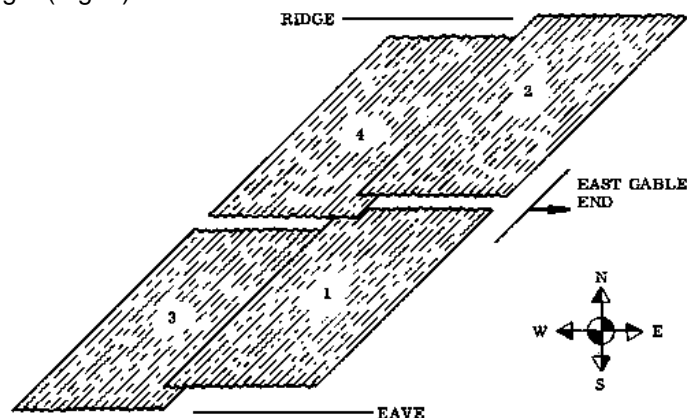

Fig. 2
a. Place sheets 1 and 2 loosely along the gable end, with sheet 2 overlapping sheet 1 by 15 cm in the length (Fig. 2).
- f. Place sheet 3, lifting up the edge of sheet 1 until it overlaps sheet 3 by two corrugations (Fig. 2).
- g. Place sheet 4, lifting sheet 2 until it overlaps sheet 4 by two corrugations. Sheet 4 should overlap sheet 3 in the length by 15 cm (Fig. 2).